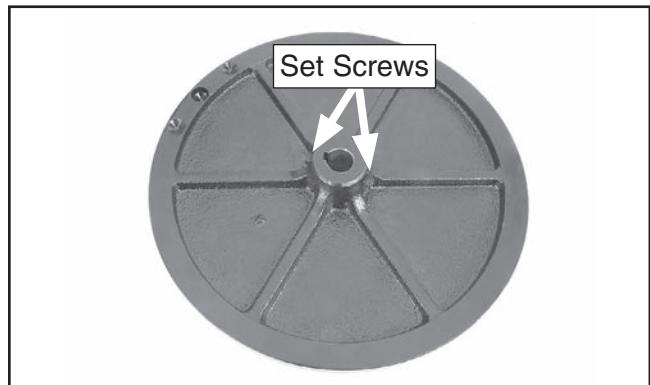

Figure 24. Set screw locations on sanding disc plate.
5. Use the 4mm hex wrench to back the shaft set screws on the cast iron plate out of the shaft hole and keyway (see **Figure 24**).